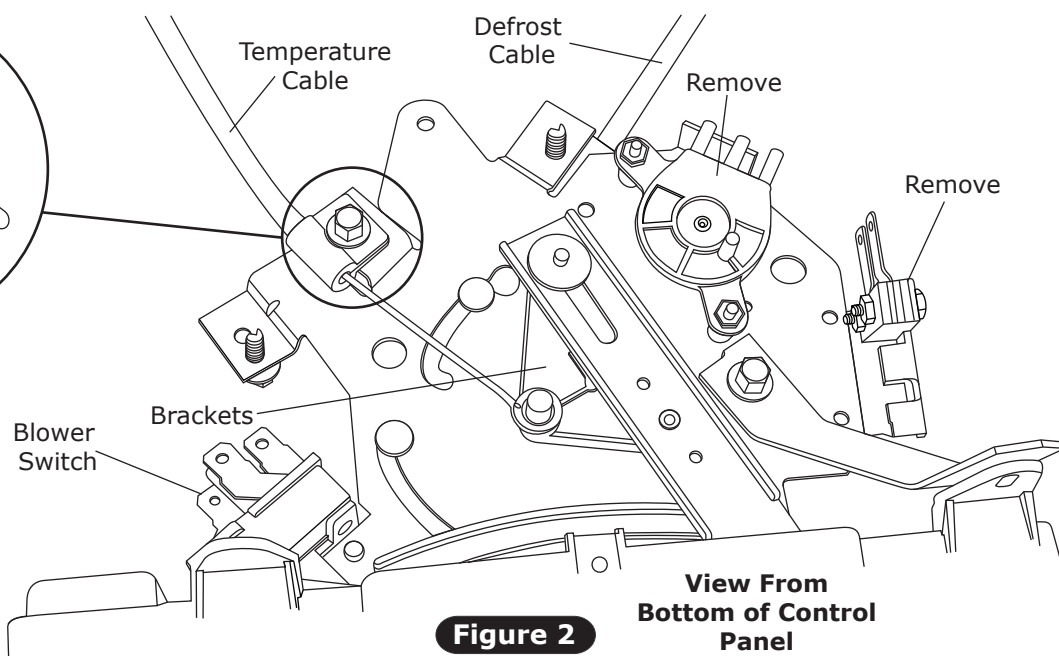

Figure 2
2. Remove brackets and blower switch from control panel (See Figures 2 and 2b, below).